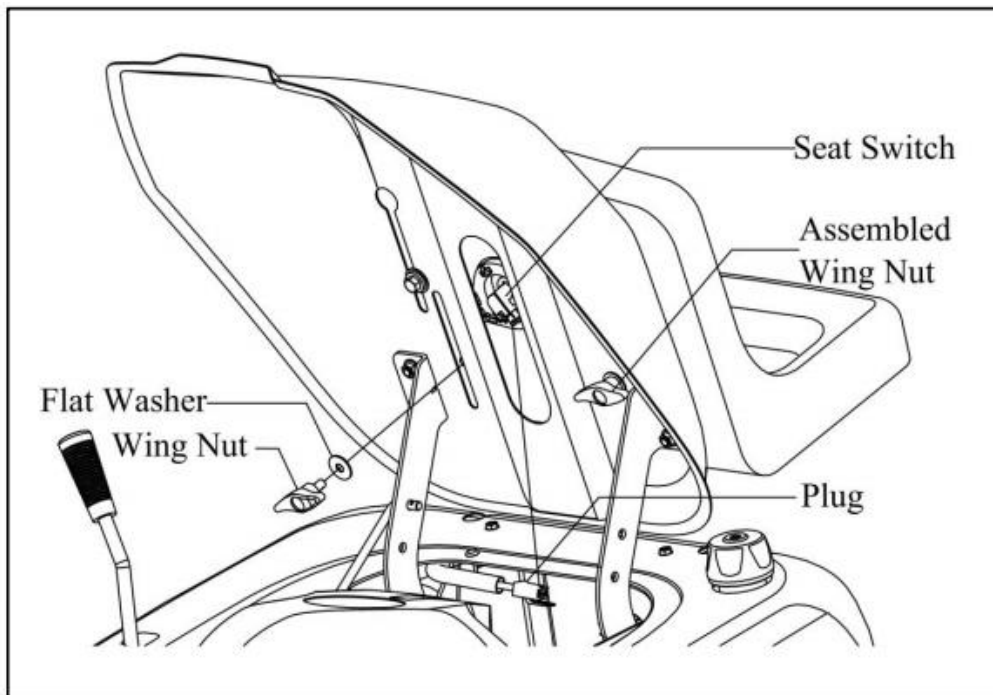

Figure 2
- 2) Raise **seat support** and secure in the **UP** position with the **seat support rod**.(Figure 2)
- 3) Align the holes in the **seat** to the holes in the **seat support**.The two **hex bolts** assembled the **seat** should go through **adjusting holes** and can slide on the slot.Fasten the **seat** to the **seat support** with fasteners as shown.(Figure 2)
- 4) Check the operating position of the seat.If the seat needs to be adjusted,loosen the two **wing bolts**.Slide the seat forward or backward along the seat **adjusting holes** as shown.Tighten the **wing bolts**.(Figure 2)
- 5) Plug in **Seat Safety Switch**.(Figure 2)